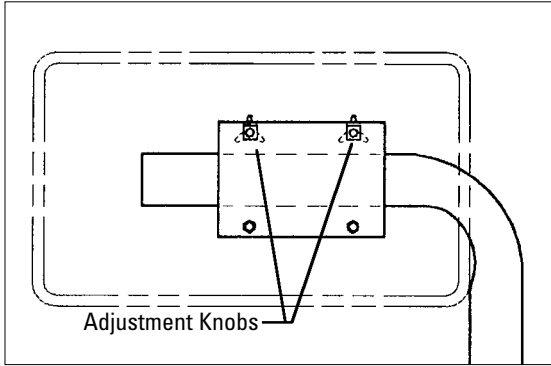

Figure 6 - Control Pod Adjustment Knobs
18. Loosen the two adjustment knobs on the back of the control pod (Figure 6).